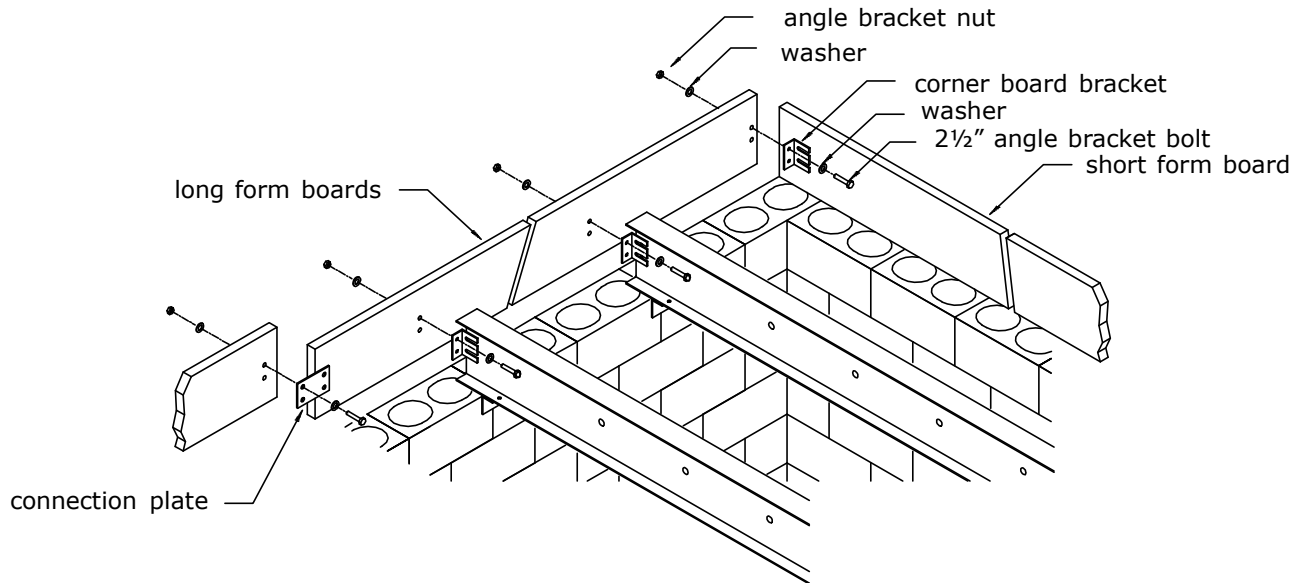

Figure F-6
1. Install all board brackets to the ends of the centered trusses as shown in fig. F-6, and F-7 but do not yet tighten the board bracket securely to the truss.